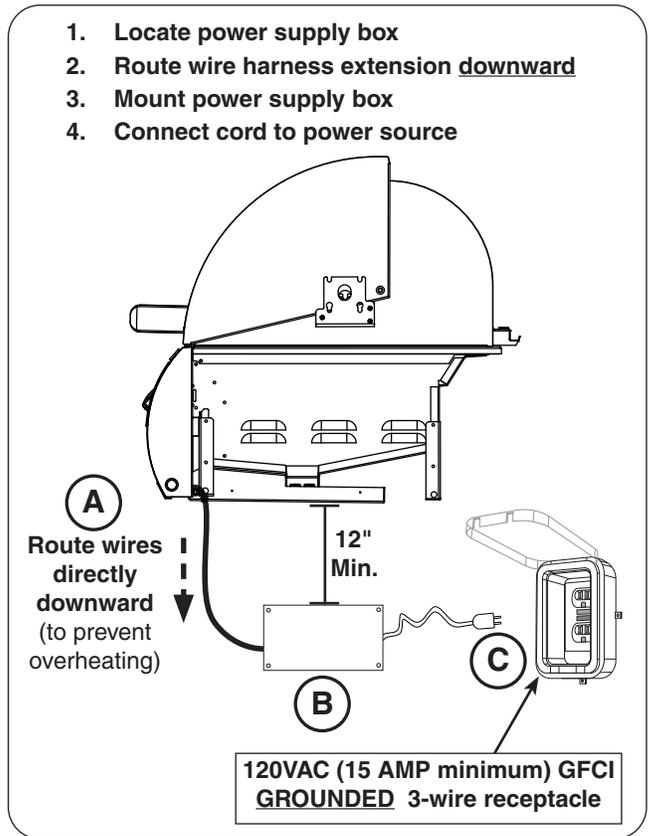

Fig. 25-1 Electrical installation
1. Route the wire harness extension below the control panel and directly downward. This will prevent overheating. **DO NOT** route the wire extension below the grill. See Fig. 25-1, A.
2. Mount the power supply box to the inside of the enclosure using appropriate hardware for your enclosure. It **MUST** be located at least 12 inches below the bottom of the unit. See Fig. 25-1, B.
3. Connect the cord coming from the power supply to a **120VAC (15 AMP minimum) GFCI GROUNDED 3-wire receptacle** (see Fig. 25-1, C). The GFCI receptacle must be a WEATHER-PROOF IN-USE COVERED RECEPTACLE.